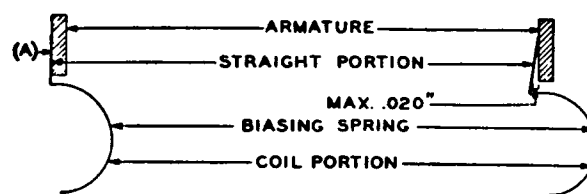

Fig. 103 - Allowable Variation in Biasing Spring Position
1.04 **Biasing Spring Position** — Fig. 103 (A): Straight portion of biasing spring shall rest approximately flat against armature. Satisfactory if top end rests on armature and clearance, if any, at bottom edge of armature is max. .020". Coil portion of spring shall clear armature and soldering lug.